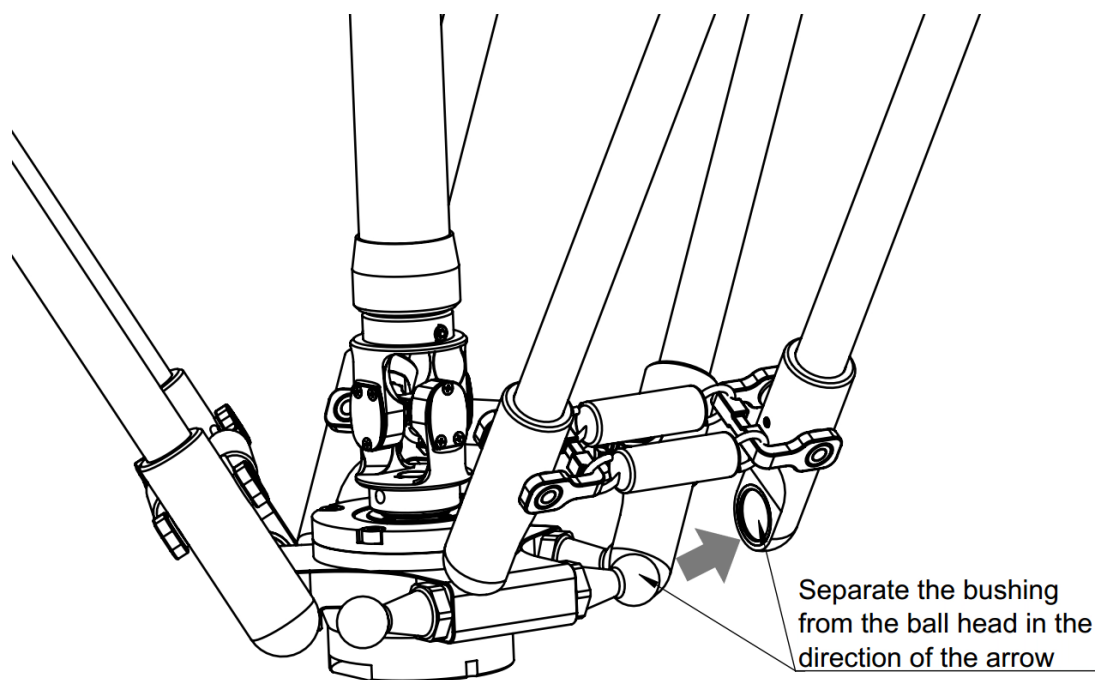

Figure 3-6 Removal at the end of moving platform
Step 2 Pull the spring where it is connected to the moving platform to separate the bushing from the ball head, as shown in Figure 3-6.